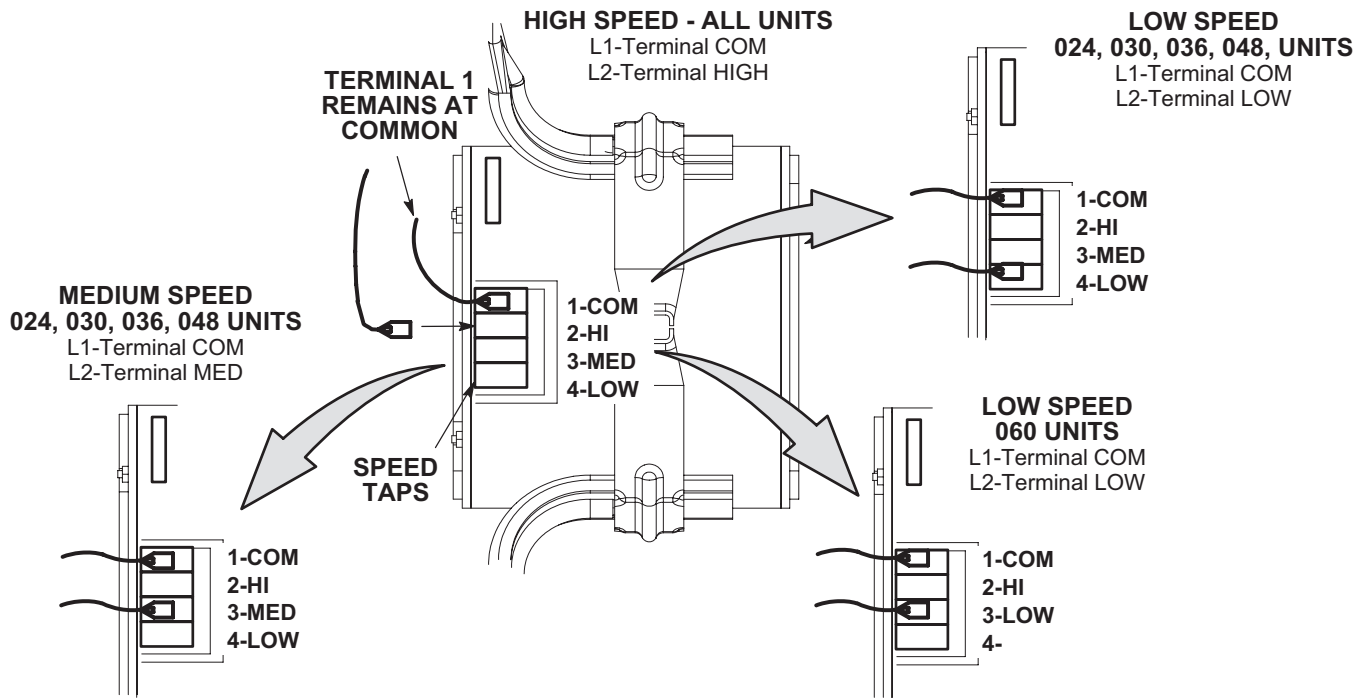

FIGURE 10
- 4 - Use direct drive blower tables, the measured static pressure and the factory-set blower speed to determine CFM. If CFM is lower or higher than the design specified CFM, move the leads as shown in FIGURE 10 for 208/230 volt units and FIGURE 11 for 460/575 volt units.